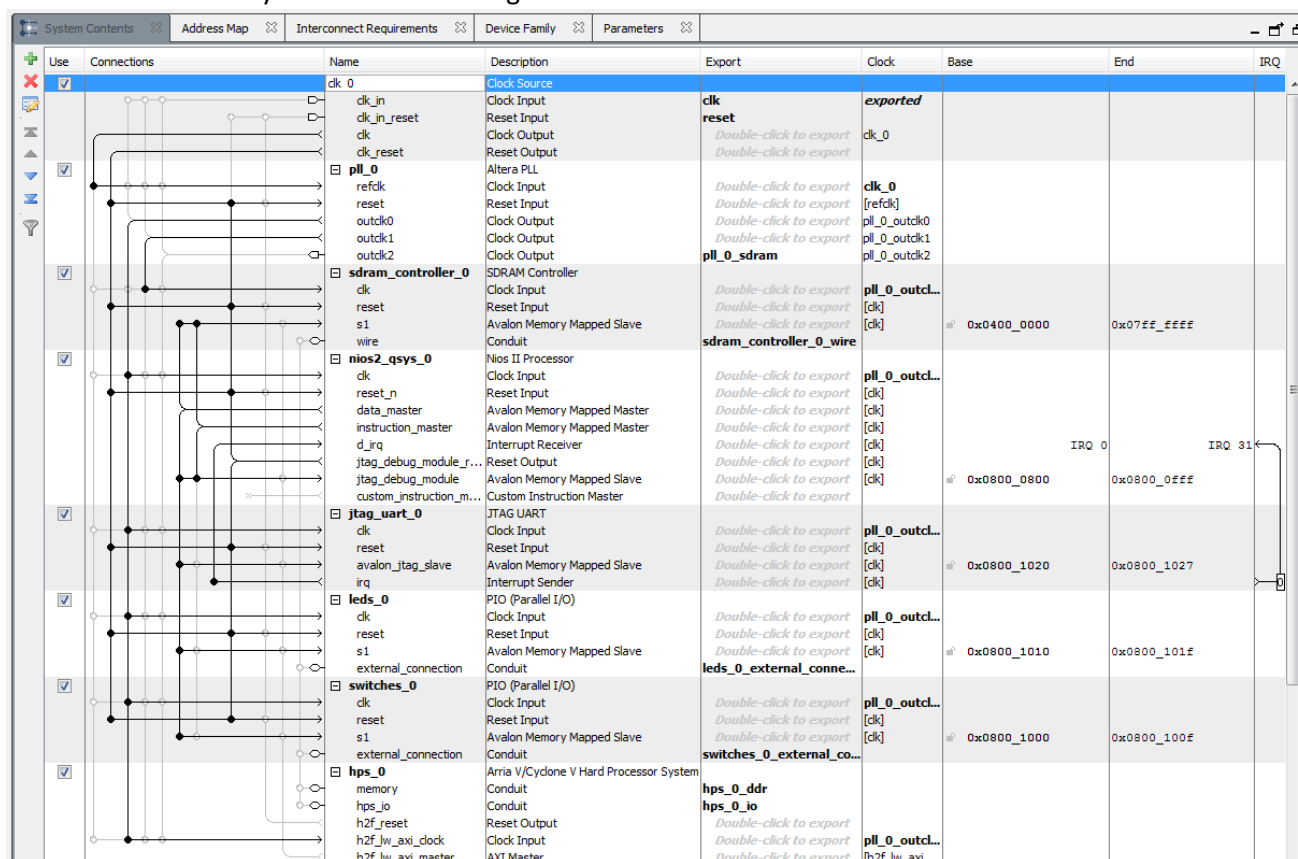

Figure 7-9. Adding the "Standalone" HPS to the System
21. Connect the system as shown in Figure 7-9 below: